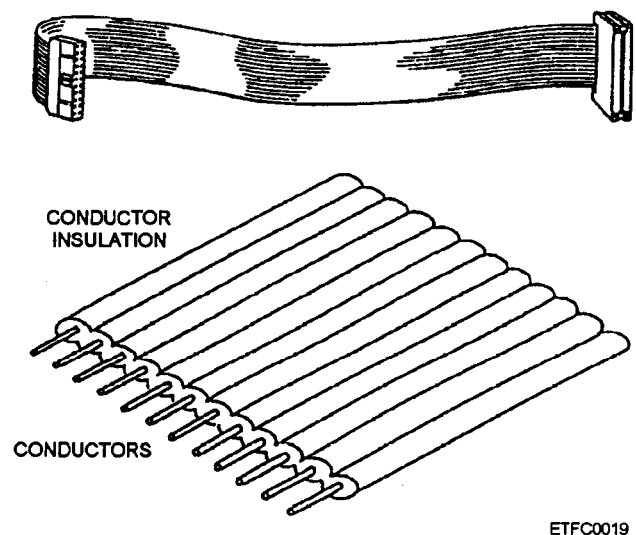

Figure 2-33.—Ribbon cable.
**RIBBON CABLES.**— Ribbon cables are flat multiconductor cables with individual insulated conductors (usually solid) that can be easily separated. Figure 2-33 is an example of a ribbon cable. Ribbon cables are extremely flexible and can be bent around sharp turns. They can be terminated with single-piece pcb or card-edge connectors, two-piece plug and receptacle pcb connectors, rectangular multipin connectors, or IDCs. Ribbon cables can be used for parallel and serial data transfer. They are also used extensively with microcomputers.